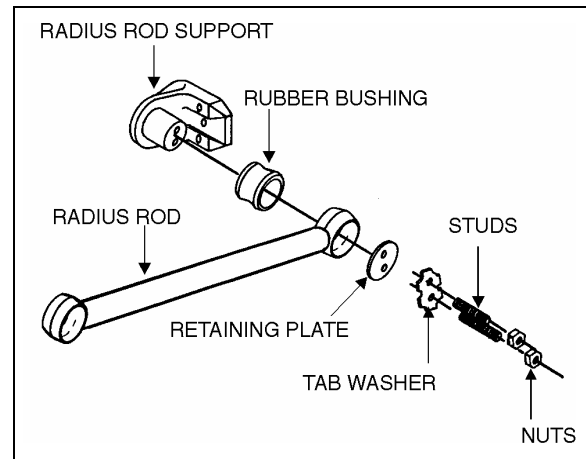

FIGURE 7: TYPICAL RADIUS ROD SETUP
1. Flatten the tab washer which secures the two retaining nuts (or bolts), and then unscrew the nuts (or bolts) at each extremity of the radius rod (Fig. 7).